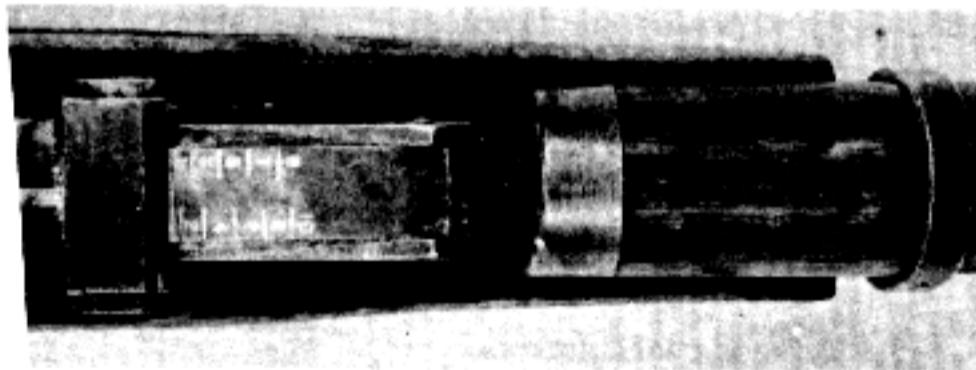

FIGURE 31. REAR RAMP SIGHT FOR CARBINE M1938.
- b. The rear ramp sight (fig. 31) is similar to the rear ramp sight of the rifle M1891/30, except that it is shorter and is graduated from 100 meters to 1,000 meters (110 yards to 1,100 yards).